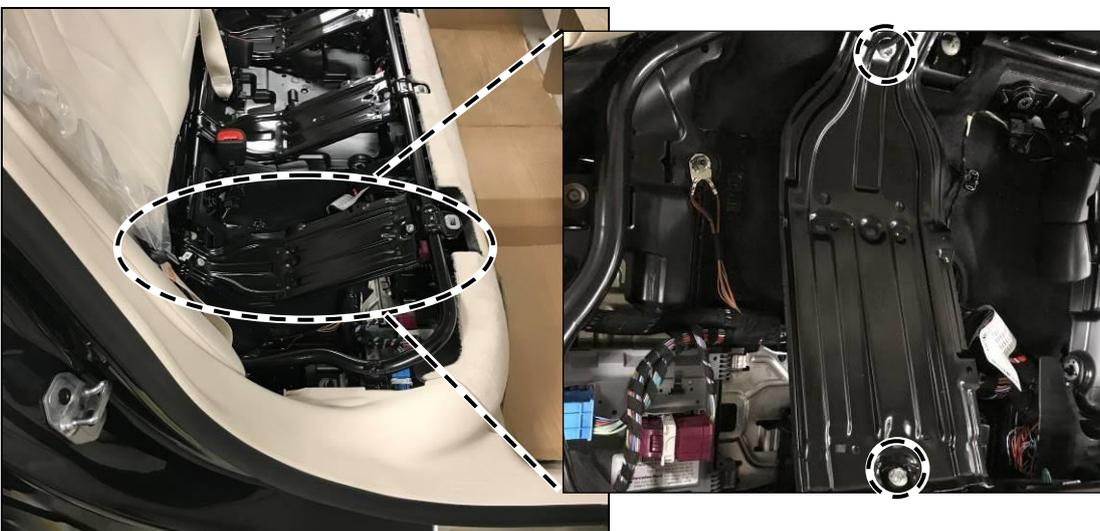

Figure 2
3. Remove right support of seat frame base in rear (figure 2).